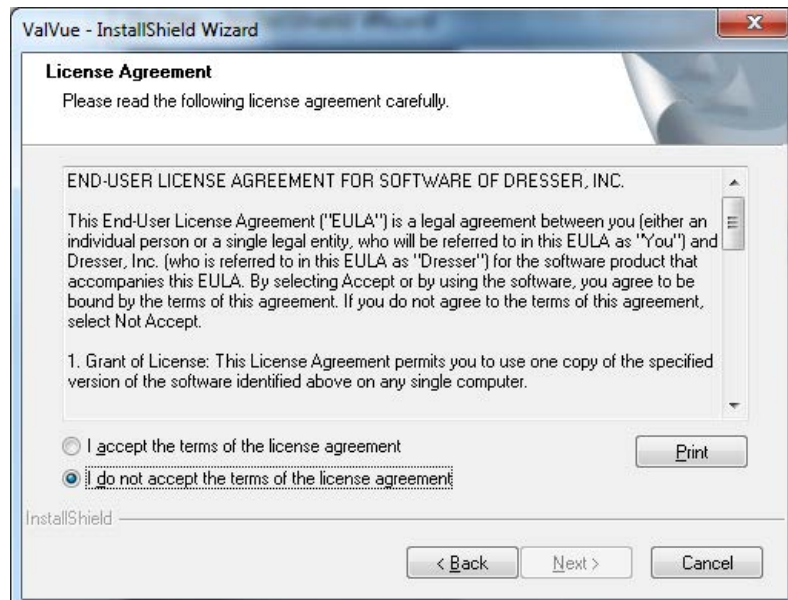

Figure 5 ValVue License
4. Click **Next** and Figure 5 appears.